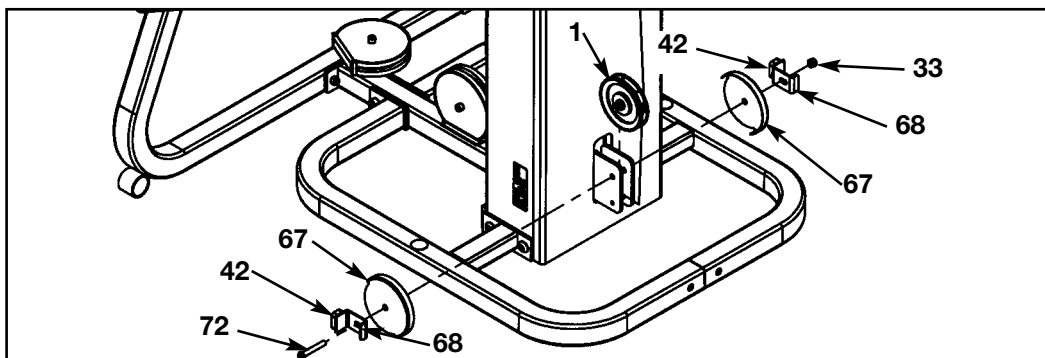

Figure 20
- D.** Install lower pulley using one pulleys (#1), one BHSCS .375-16 x 2.50 (#72), one nylon locknut .375-16 (#33), two stop brackets (#68)/bumpers (#42) and two pulley guards (#67). See Figure 20.